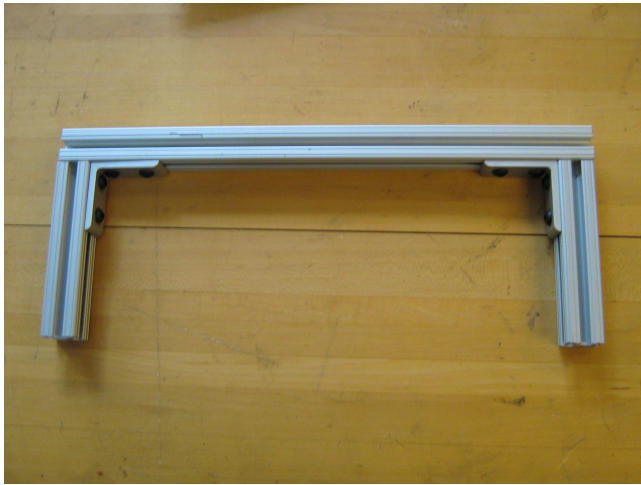

Figure 3: Completed rollbar.
1. Assemble the rollbar (see Figure 3).